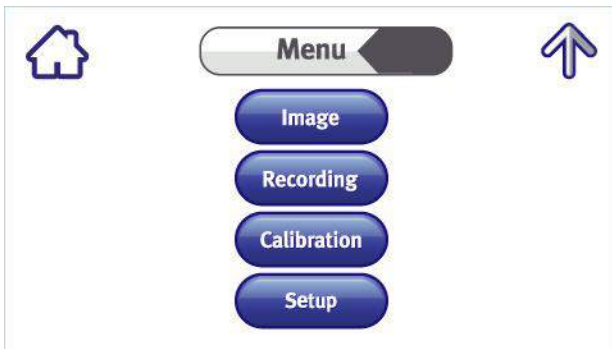

FIGURE 4-13: MENU SCREEN
1. Press **Menu** in the main menu. The Menu screen (Figure 4-13) appears.
1. Press **Menu**. The Menu screen (Figure 4-13) appears.